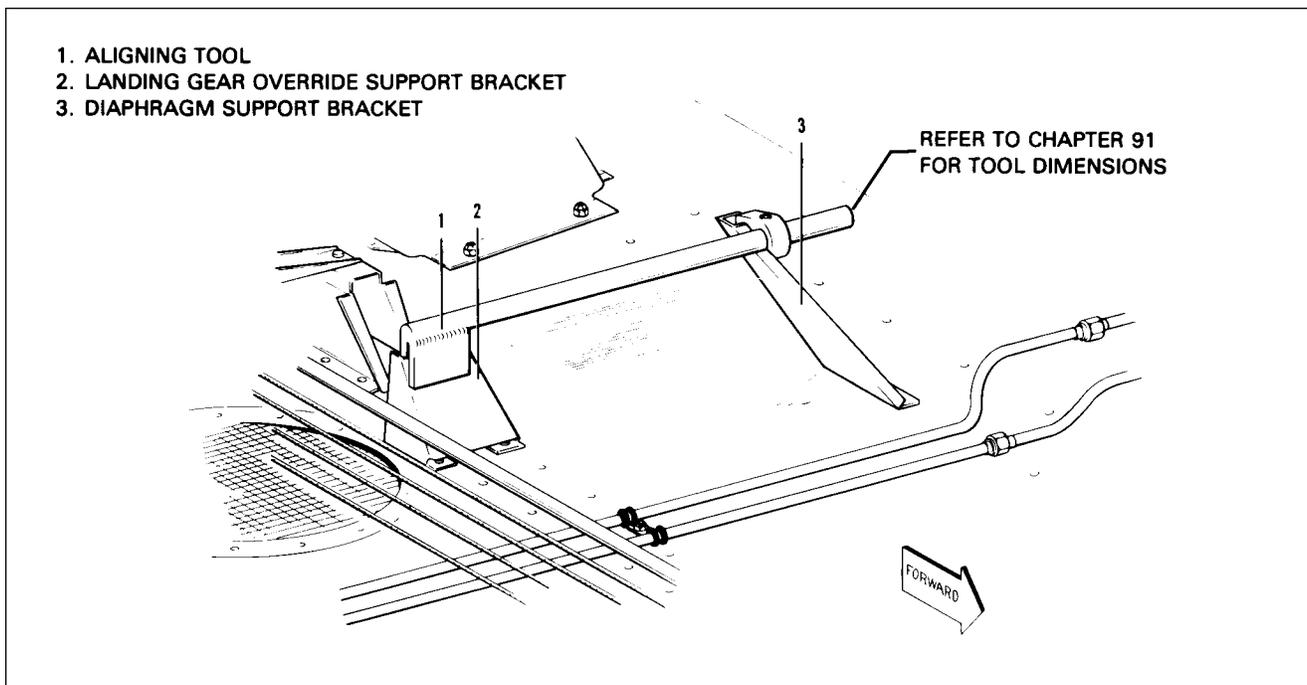

Figure 29-7. Checking Aligning Brackets of Gear Back-Up Extender Actuator
*To reform the main fuselage mounting bracket, an Aligning Tool may be used. (Refer to Figure 29-7.) This tool may be fabricated from dimensions given in Chapter 91. When proper alignment has been accomplished, tighten the machine screws.*